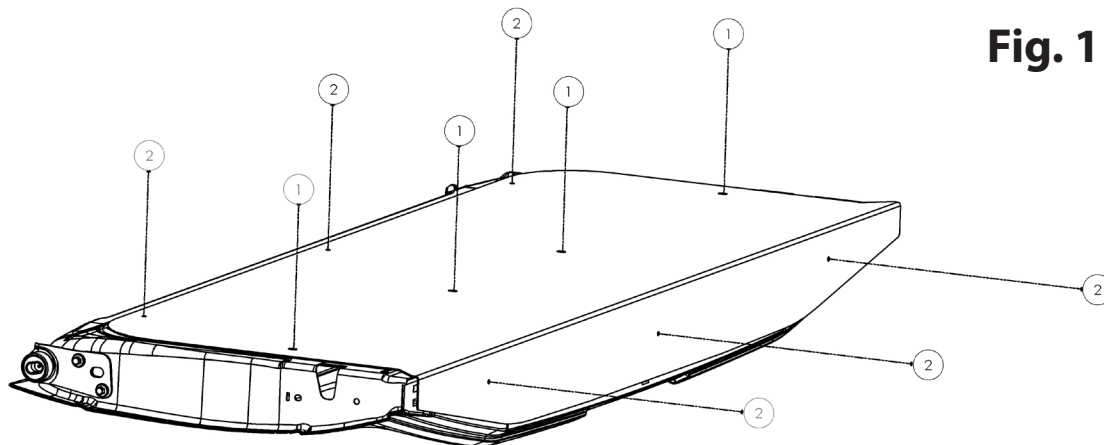

Fig. 1
2. Open the factory tailgate and remove the (4) Torx bolts across the middle area of the tailgate from the lower edge of the tailgate panel insert.
3. Place the Full Tailgate Protector on the tailgate as shown in Fig. 1, where it is snug to the top edge of the tailgate and centered from side to side (Hint: The slotted holes in the Full Tailgate Protector should be lined up with the holes from the previously removed Torx bolts.)
4. Re-install the Torx bolts until snug. (These locations are marked with a 1 in Fig. 1)
- 5A. Starting with the top edge of the tailgate, screw (3) sheetmetal screws into the (3) top holes. Next, screw the remaining (3) sheetmetal screws into the lower inside tailgate holes. (These locations are marked with a 2 in Fig. 1)
- 5B. Starting with the top edge of the tailgate, using a 3/16" drillbit and the Full Tailgate Protector as a template, drill a hole through the (3) top holes. Next, using a rivet gun, fasten the top edge of the tailgate using (3) of the 3/16" x 9/16" rivets. Next repeat this process for the (3) lower inside tailgate holes. (These locations are marked with a 2 in Fig. 1)